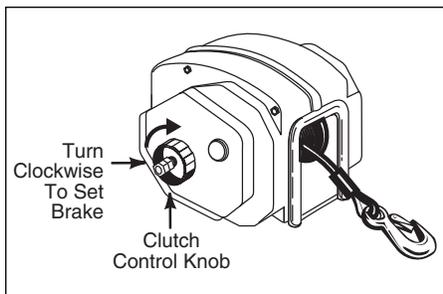

Figure 3. Clutch knob operation for loading.
- 3. Turn the clutch control knob **clockwise until finger tight** to set the brake (See Figure 3).